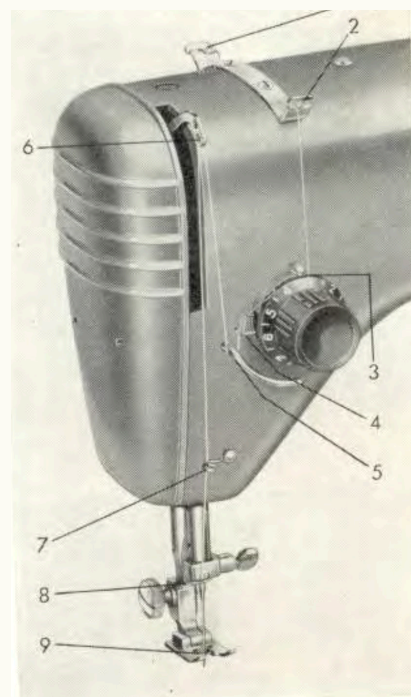

Fig. 12.
Bring the thread take-up lever (6, Fig. 12) to its highest position by turning the hand wheel towards you. Put a spool of thread on one of the spool pins (41 and 42, Fig. 2).
Pass thread through the thread guides (1 and 2, Fig. 12), then round from right to left between the innermost tension discs (3), over the crotch of the thread take-up spring (4), under the slack thread regulator (5) and up through one of the eyes in the thread take-up lever (6). From the take-up lever take the thread down through thread guide (7) and the guide on the needle clamp (8) and thread it through the needle from the front through the needle point, pulling out 3 or 4 inches behind.
The tension of the upper thread is regulated by the pressure of the tension discs (3, Fig. 12) against each other. This pressure is adjusted by means of a knob calibrated from 0 to 9 with 0 as lowest and 9 as highest thread tension (Fig. 13). When the machine leaves the factory, it is adjusted for linen-sewing with mercerized thread No. 50.